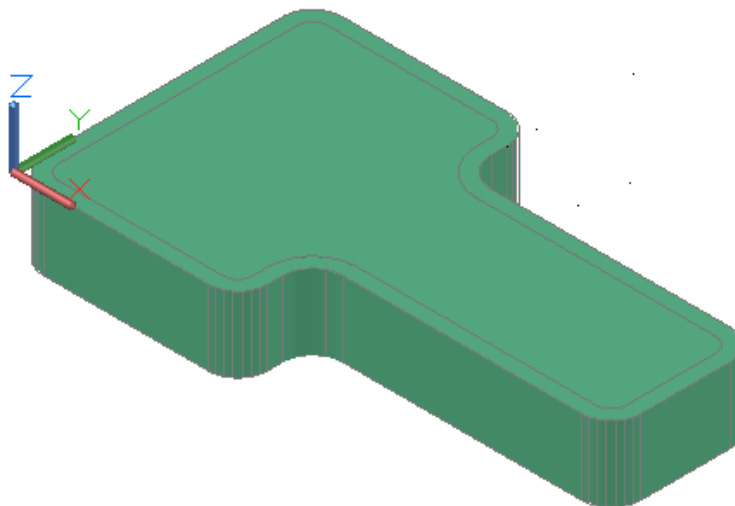

Figure Step 13
Step 13 Change the visual style to Realistic. (Figure Step 13)